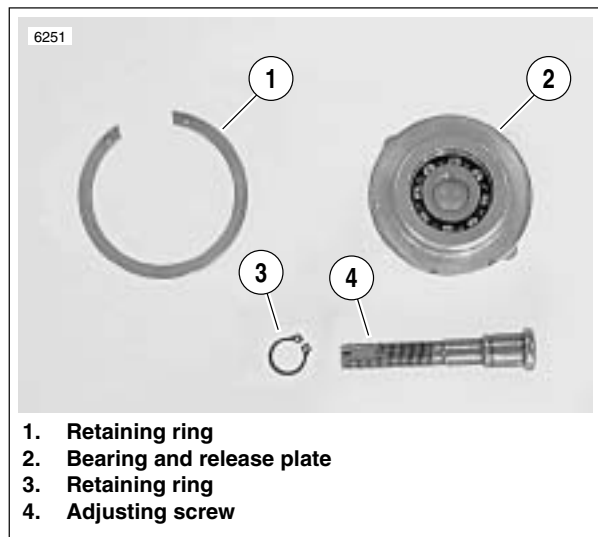

Figure 6-16. Adjusting Screw Assembly
5. See Figure 6-16. Remove adjusting screw assembly.